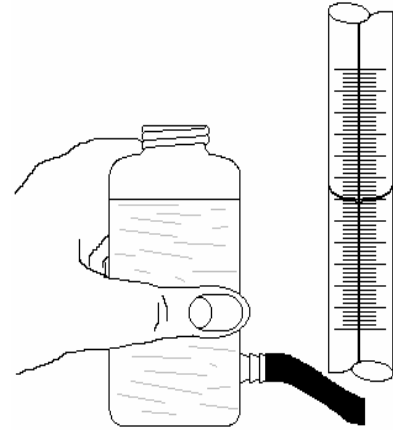

Figure 7 Measuring Sample Volume using Leveling Bottle
- c. Continuously repeat Step B until the amount of carbon dioxide absorbed from the sample (e.g., the level of the meniscus) does not change. Typically, three passes of the sample through the absorption pipette is sufficient for the complete absorption of CO_2 . Close the stopcock on the burette and on the CO_2 pipette and record the position of the meniscus. To ensure the correct reading of the meniscus, hold the aspirator bottle as shown in Figure 7.